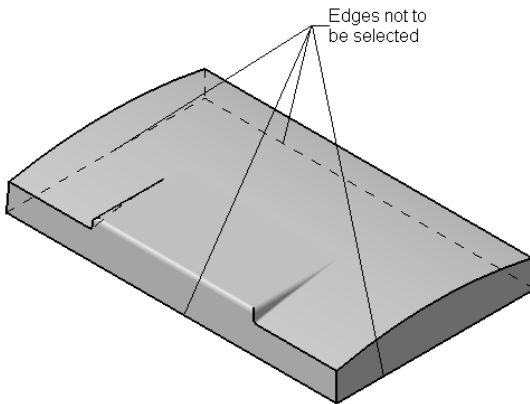

Figure 6-101 Edges not to be selected
8. Select all the edges of the model, except the edges shown in Figure 6-101, and set the value of the **Radius** spinner to **5**.